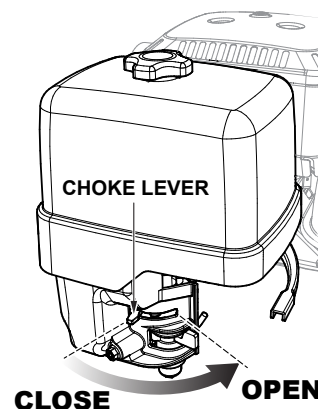

Figure 18. Choke Lever (Open)
- If the choke lever was moved to the "CLOSED" position to start the engine, gradually move it to the "OPEN" position (Figure 18) as the engine warms up. If the engine has not started repeat steps 1 through 6.